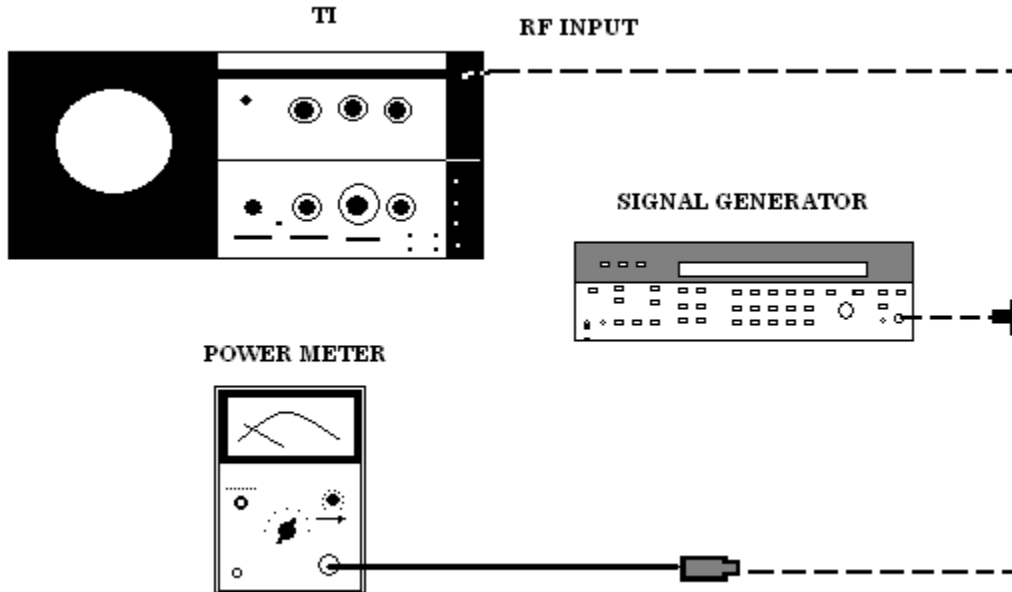

Figure 12. Frequency Response - equipment setup.
(1) Connect equipment as shown in figure 12.